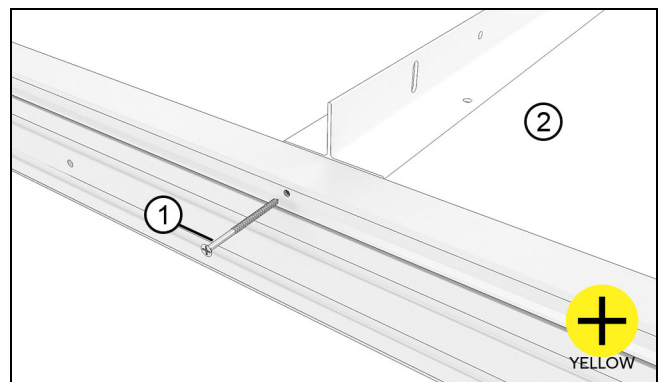

Figure 52 Fasten interlock to head jamb
11. Fasten the pocket interlock to the head jamb using a #8 x 2 1/2" (6) screw through the pre-drilled hole in the head jamb. See Figure 52.